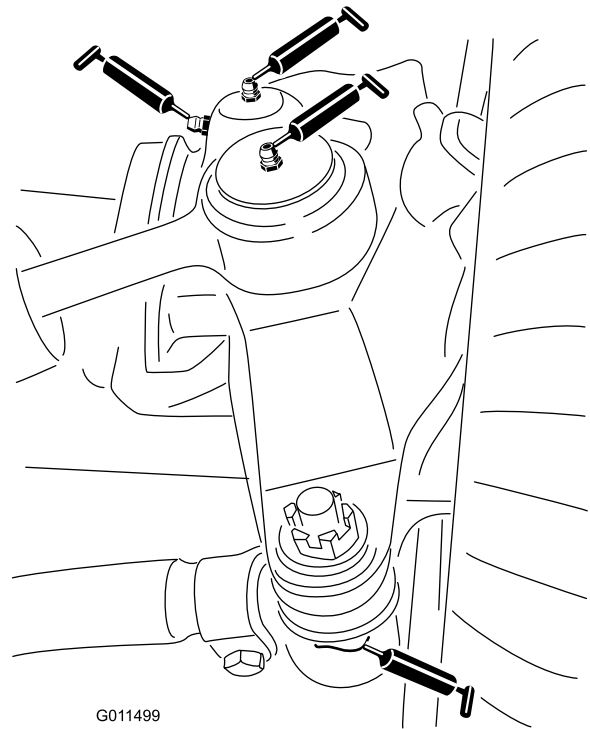

Figure 38
- 2 steering-cylinder-ball joints (Figure 38)
- 2 tie-rod-ball joints (Figure 38)
- 2 king-pin bushings (Figure 38).